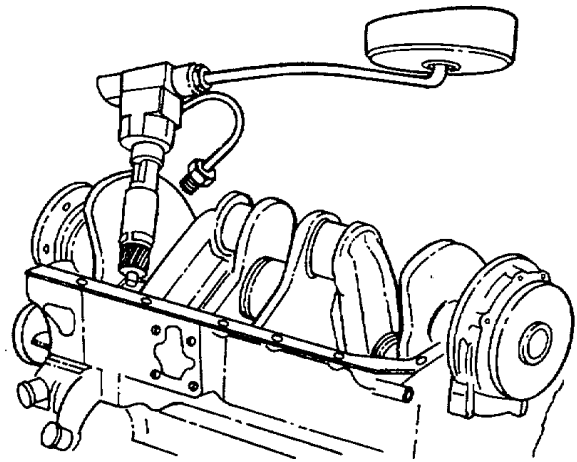

Figure 5-44. Oil Pump Removal.
- (5) Remove the oil pump (1) from the cylinder block (see Figure 5-44).